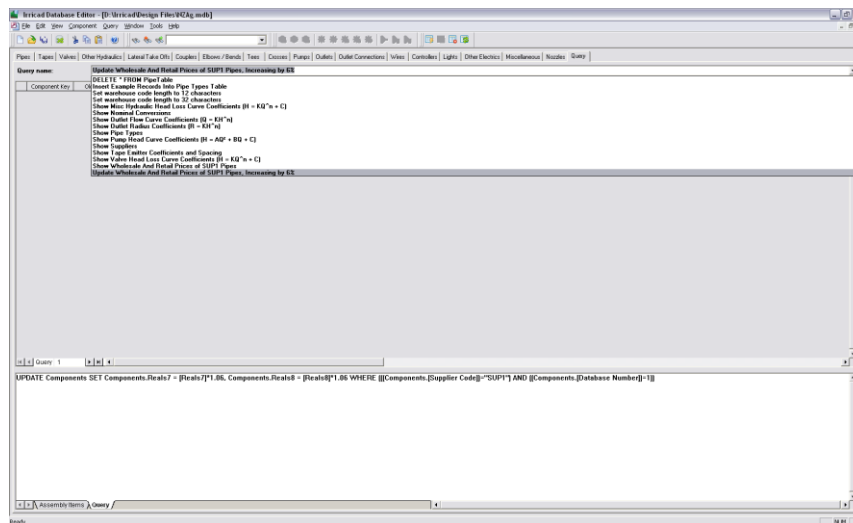

Figure 2-83
4. Once the query has been selected, the formula will be displayed in the lower field. See Figure 2-83.